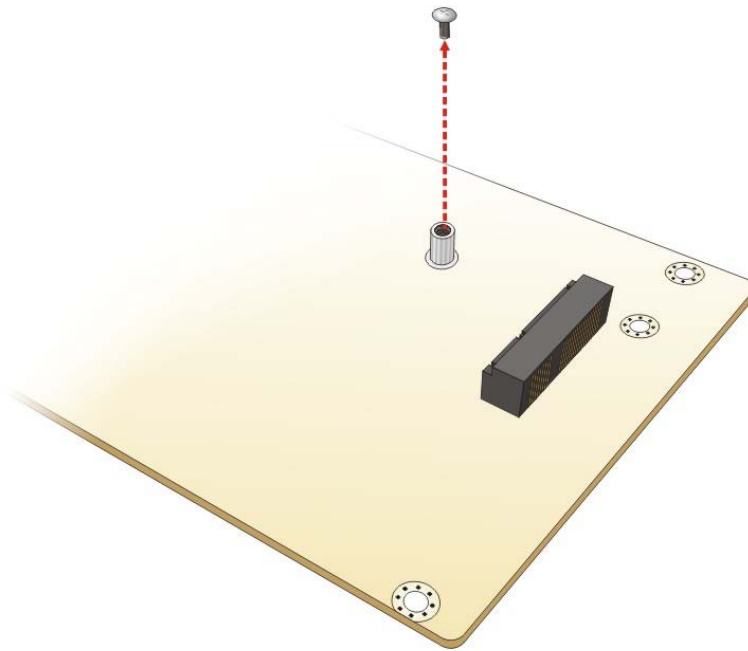

Figure 4-2: Removing the Retention Screw for the iRIS-1010 Module
- Step 2:** Remove the **retention screw**. Remove the retention screw as shown in **Figure 4-2**.